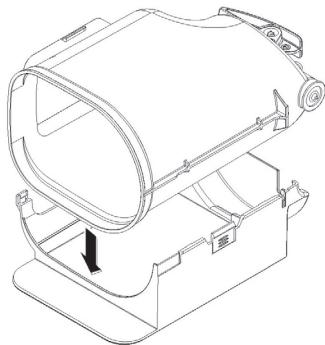

figure 15
- 1** Place the right-hand part of the recover on a surface. Place the container inside it . (see figure 15)